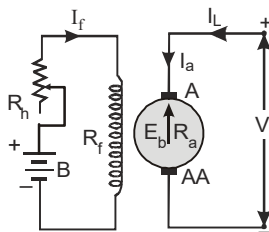

Fig. 4.56: Circuit of separately excited motor
1. **Separately excited d.c. motors** : The conventional diagram of a separately excited d.c. motor is shown fig 4.56. Its voltage equation will be;